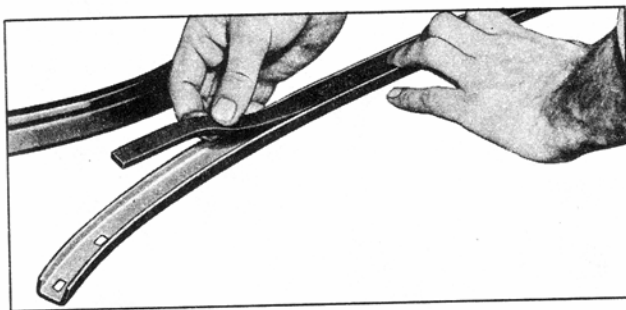

Fig. 6—Installing Filler Strip
4. Place upper frame rubber filler strip into channel of frame (fig. 6). Place anchor plates in position in channel, aligning holes in plates with holes in frame. Shift filler strip as required to fit in channel between the anchor plates. Mark strip and frame for alignment. Remove anchor plates and secure filler strip in correct position by "spot cementing" in four equally spaced one inch areas.